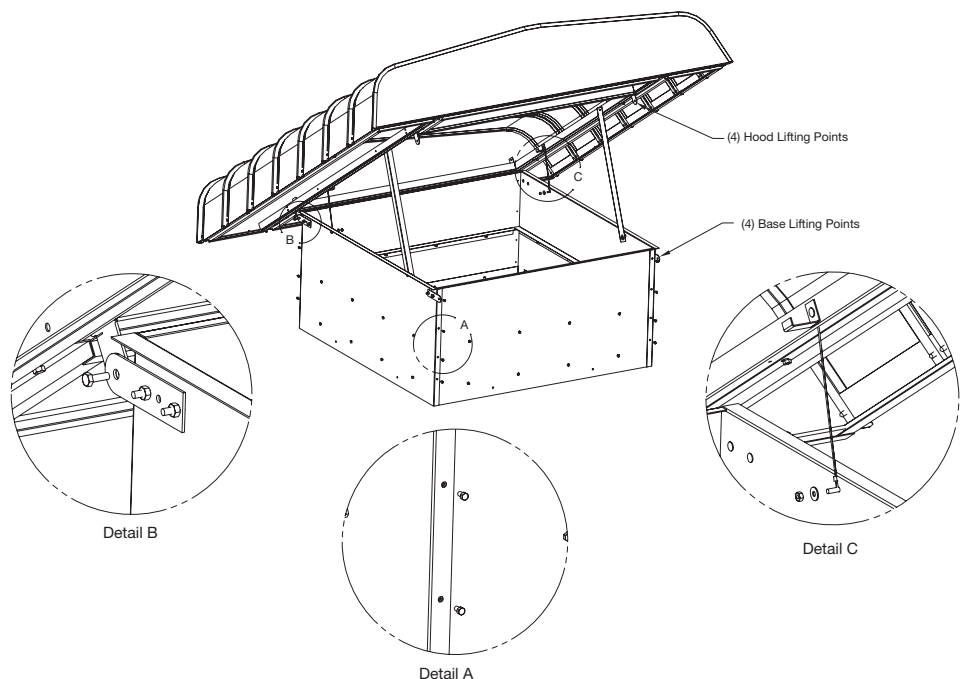

Figure 2 — Base Installation Details
**NOTE:** Refer to Figure 2, for Base Installation Details.
1. Using (12) #12 x 5/8 sheet metal screws, attach the bottom screws (3) to each corner of the base housing sides to the base housing front and back as shown in Detail A.
- c. Use (16) #12 x 1 sheet metal screws to secure fan into base (use (20) on 3FKE2 and 3FKE3), installing screws from outside of base into fan panel.
3. Using (4) #12 x 5/8 sheet metal screws, attach top screw to each corner of the base housing sides, front and back as shown in Detail A.
3. Lift base using the (4) base lifting points on to roof and place on roof curb. Refer to Figure 2, page 4, for base lifting points.
4. Secure ventilator to roof curb using a minimum of (8) fasteners (by others).
5. Lift hood using the (4) hood lifting points on to roof and place on base. Refer to Figure 2, page 4, for hood lifting points.
6. Using (2) 5/16-18 x 3/4 bolts and (2) 5/16-18 nuts, attach the hinge point (found attached to the hood) to the base as shown in Figure 2, page 4, Detail B.
8. Under the hood is a retaining cable. On both sides of the base, move the (2) bolts and nuts and attach the retaining cable end to base as shown in Figure 2, page 4, Detail C.
9. Close Hood. Attached (2) 5/16-18 x 3/4 bolts and (2) 5/16-18 nuts to hinge point.